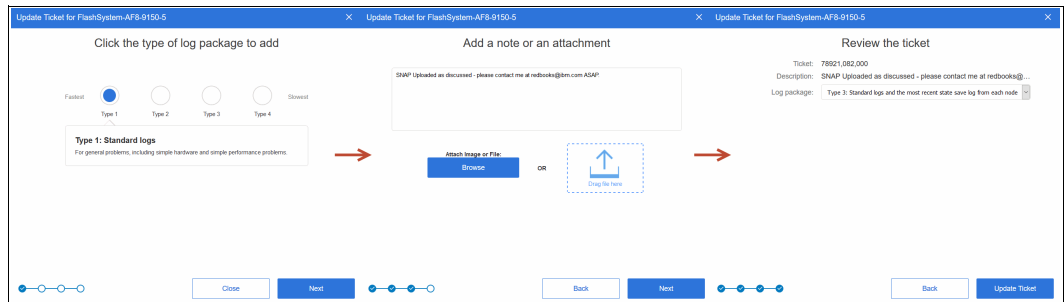

Figure 13-91 Adding a log package to the ticket
2. To quickly add logs to a ticket without having to browse to the system GUI or use IBM ECuRep, click **Add Log Package to Ticket**. A window opens that guides you through the process, as shown in Figure 13-91. You can select which type of log package you want and add a note to the ticket with the logs.